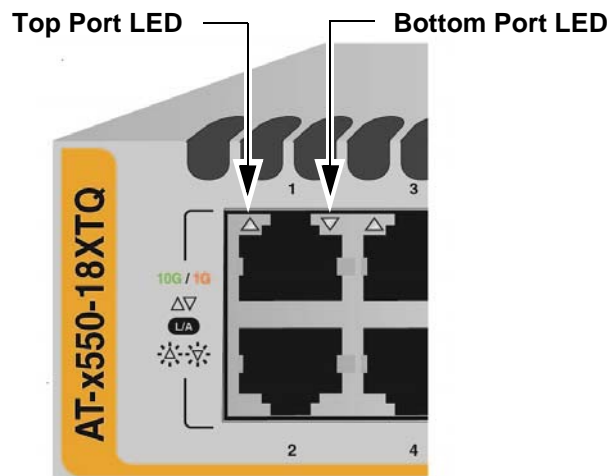

Figure 4. Link and Activity LEDs for the 1Gbps/10Gbps Ports on the AT-x550-18XTQ, Switch
**LEDs** Each 1Gbps/10Gbps twisted pair port on the AT-x550-18XTQ Switch, has an LED that displays link and activity information. The LED is shown in Figure 4.